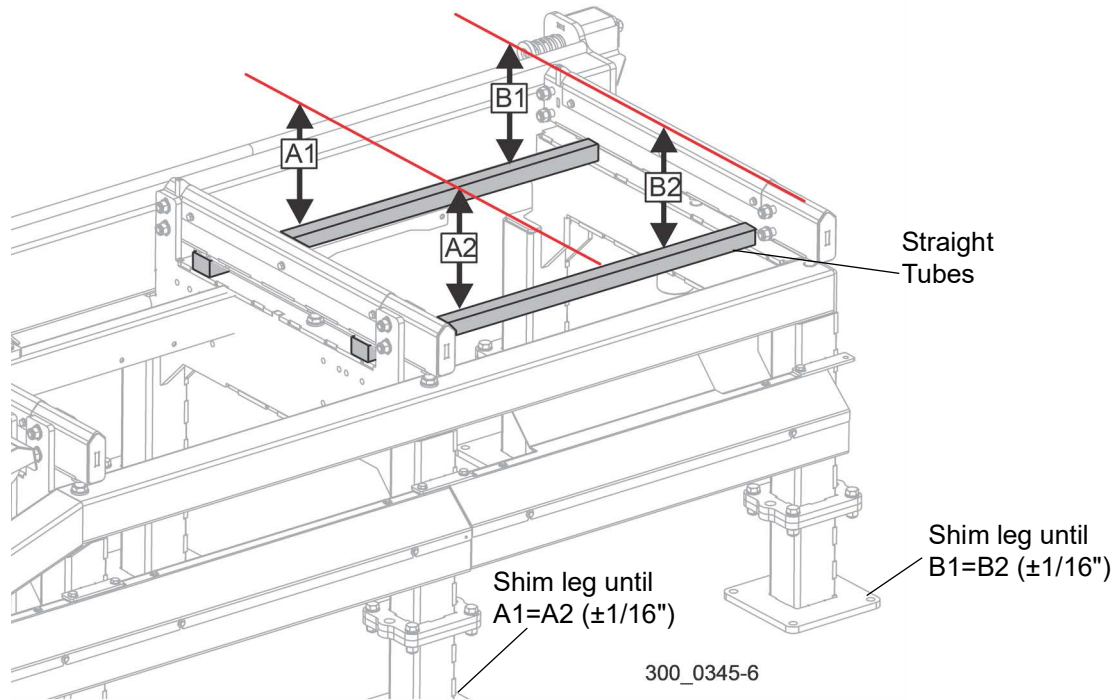

FIG. 3-34
4. Loosen the blade guide adjustment screws as necessary to move blade guide roller away from blade. See Fig. 3-34.